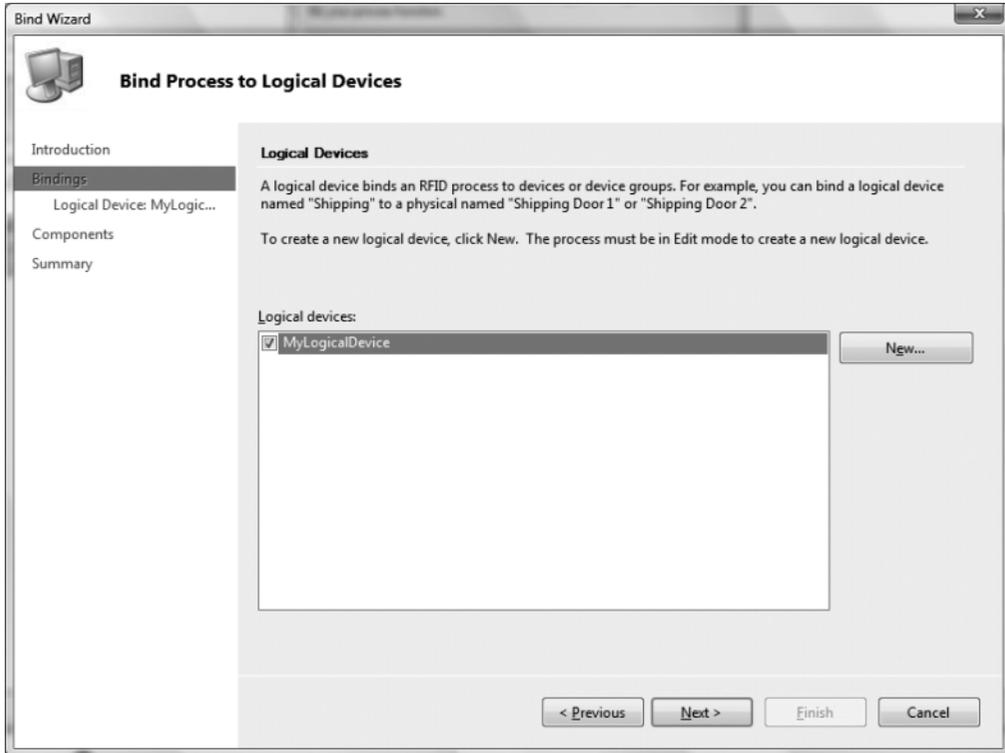

Figure 3-11. *Creating a logical device*
8. MyLogicalDevice should now be registered. Click its check box to enable that logical device, as shown in Figure 3-11. Click Next.